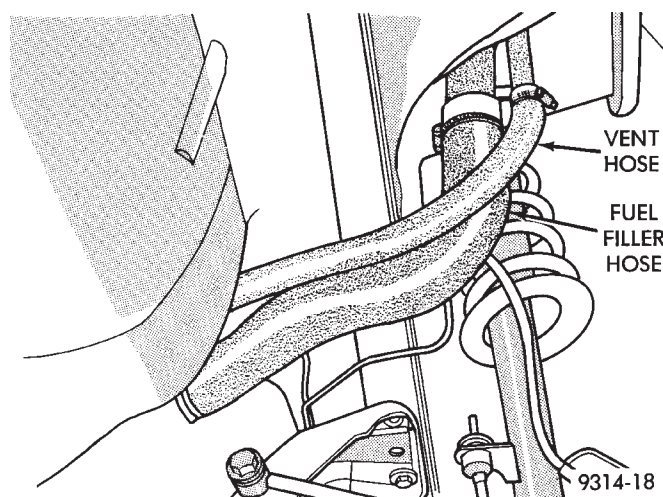
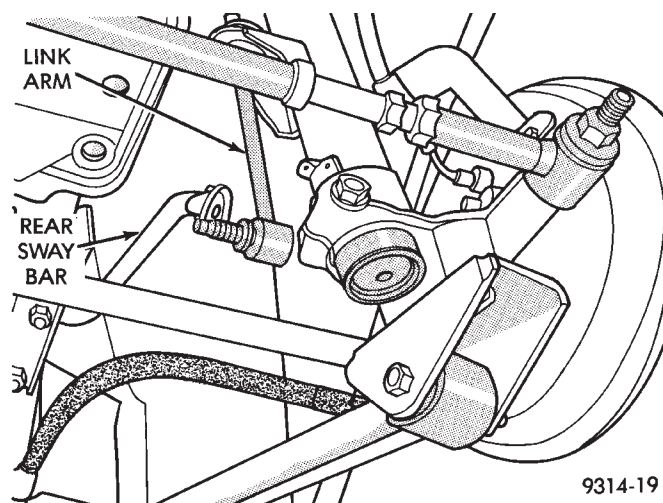

Fig. 4 Fuel Filler and Vent Hoses
Fig. 5 Disconnecting Sway Bar Ends
(1) Release fuel system pressure. Refer to the Fuel System Pressure Release Procedure.
(2) Drain the fuel tank. Refer to Draining Fuel Tank in this section.
(3) Disconnect negative cable from battery.
(4) Remove rear tires.
(5) Pull exhaust pipe hangers rubber insulators off of mounting studs on frame rail at the rear of the vehicle and in front of the fuel tank.
(6) Using a grease pencil, place alignment marks on the fuel filler hose and filler tube. Also mark the vent hose and vent tube. Remove splash shield from passenger side rear wheel well.
(7) Remove the fuel filler and vent hose clamps. Remove the vent hose from the vent tube. Remove the filler hose from the filler tube (Fig. 4).
(8) Disconnect fuel supply tube from inlet side of fuel filter. Disconnect fuel return tube and vent tube near fuel filter. Refer to Quick Connect Fittings in the Fuel Delivery section of this group.
(9) Disconnect both ends of the sway bar from the stabilizer links (Fig. 5).